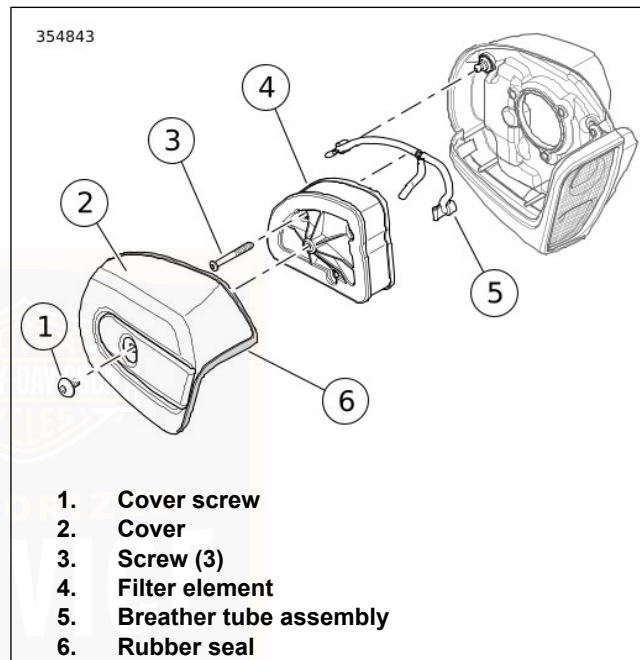

Figure 74. Air Cleaner Assembly
1. See Figure 74. Remove screw (1) and air cleaner cover (2) with rubber seal (6).
2. Remove three screws (3).
3. Remove filter element (4) pulling breather tube from hole on inboard side.
4. Remove breather tube (5) from breather bolts.
1. See Figure 74. Install breather tube (5) onto breather bolts.
2. Install filter element (4) while pushing breather tube into element.
3. Install screws (3). Tighten screws to 4.5–6.8 N·m (40–60 **in-lbs**).
4. Verify that rubber seal (6) is not damaged and is properly seated around perimeter of air cleaner cover.